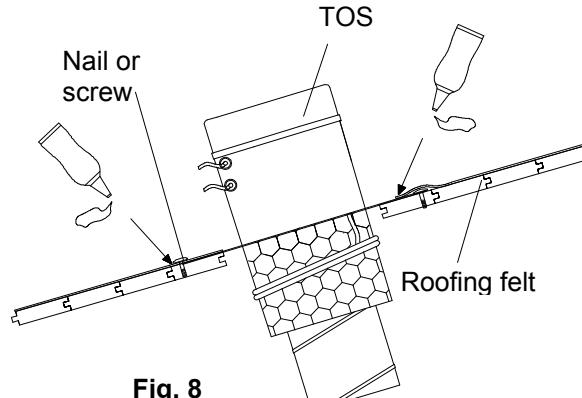

Fig. 8
2. Place the sheet metal of the covering plate under the edge of the roofing felt at the upper edge and along the sides, and on top of the roofing felt at the lower edge. Fig 8.